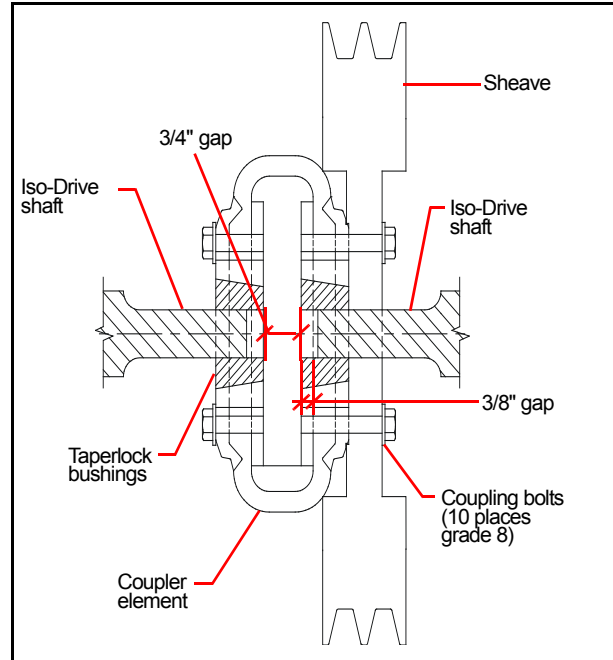

Figure 5-16 Close-coupled Dual Iso-Drive Connection with no Jackshaft
4. Loosen the 10 coupling bolts on the flange and remove the spacing coupler element (Figure 5-16).